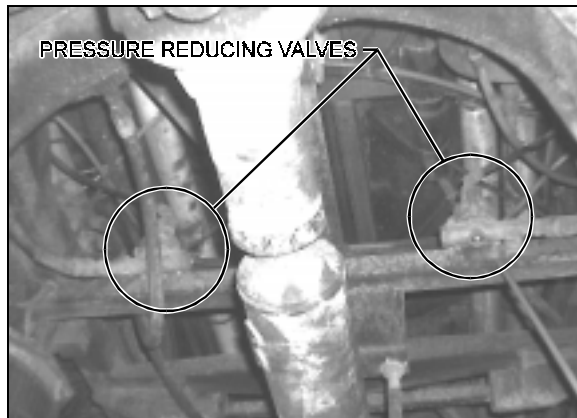

FIGURE 1: VIEWED FROM UNDER TAG AXLE 12090
3. From underneath vehicle, locate both pressure reducing valves. (in between drive & tag axles - Fig. 1)